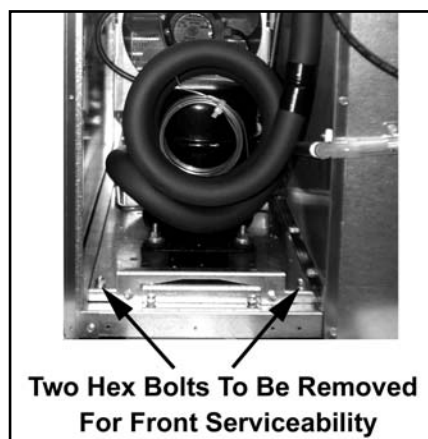

Figure 2
2. Remove the two 1/4" hex head shipping bolts at the rear of the condensing unit base. With these shipping bolts removed, the condensing unit is serviceable from the front of the Pizza Table Refrigerator. (See **Figure 2**)
Caution: At installation two shipping screws must be removed from the rear of the condensing unit to allow service from the front of the unit. (Refer to **Figure 2**)